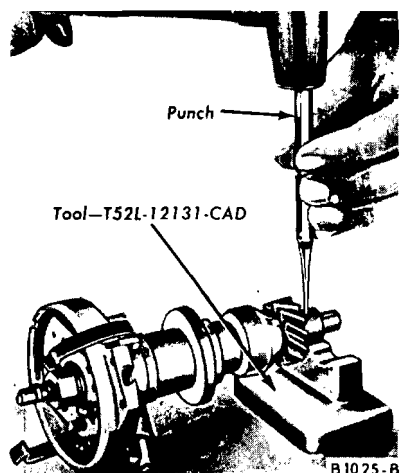

FIG. 4—Gear Pin Removal or Installation
9. Drive out the drive gear pin with a punch (Fig. 4).